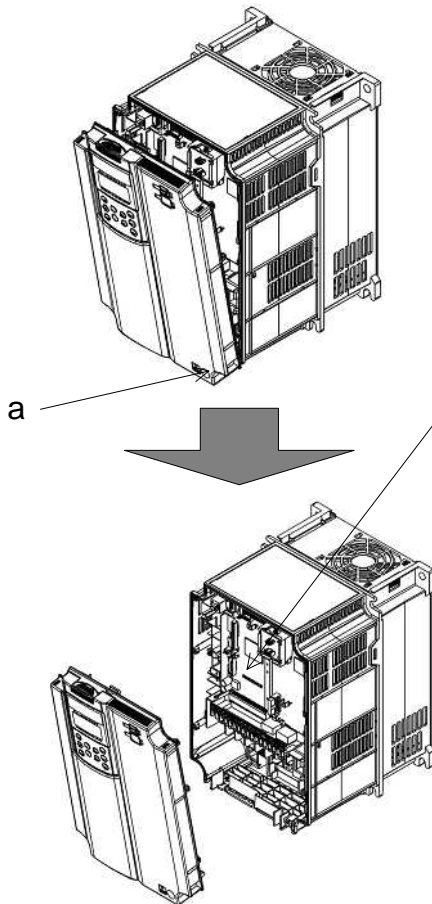

Figure 2.1-1 Removing the Front Cover
As shown in Figure 2.1-1, loosen the cover mounting screw on section "a" and pull out the upper end of the front cover towards you.
- (1) Set three attached spacers "d" onto three locations "a" to "c" of the option mount provided on the control PCB.
- (2) Mount the interface card so that connector CN1 on the card comes to be connected to connector B-port on the control PCB.
- (3) Secure the interface card with three attached screws "e."
- (4) Connect the power cable from the option to CN24 on the "Control PCB".
- (5) Mount the front cover in the reverse order of removal, referring to Figure 2.1-1 or 2.1-2.
- (1) Mount the digital 16-bit option onto connector D-port provided on the control PCB.
- (2) Secure the digital 16-bit option with two screws "a" (that come with the option) through holes ① and ②, then set four spacers "b" (that come with the option) into holes ③ to ⑥.
- (3) Set spacer "d" (that comes with this interface card) onto location "c" of the option mount provided on the control PCB.
- (4) Mount the interface card so that connector CN1 on the card comes to be connected to connector B-port on the control PCB.
- (5) Secure the interface card with three attached screws "e."
- (6) Connect the power cable from the option to CN24 on the "Control PCB".
- (7) Mount the front cover in the reverse order of removal, referring to Figure 2.1-1 or 2.1-2.